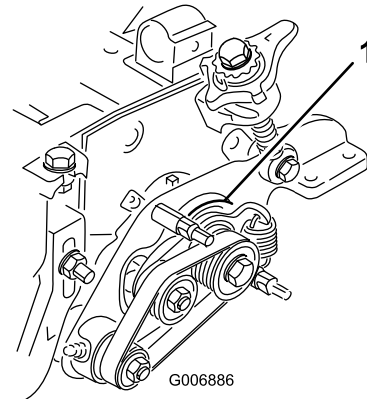

Figure 49
6. Make sure the main drive bushing (Figure 49) pivots freely around the drive hub.